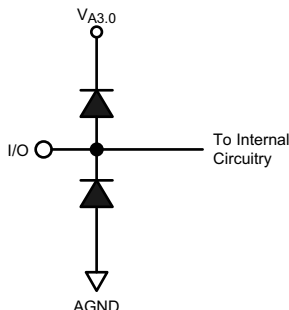

Figure 1.
- (1) The inputs are protected as shown below. Input voltage magnitudes above $V_{A3.0}$ or below GND will not damage this device, provided current is limited per Note 4 of the Absolute Maximum Ratings table. However, errors in the A/D conversion can occur if the input goes above 2.6V or below GND as described in the Operating Ratings section see Figure 1.
- (2) Typical figures are at $T_A = 25^\circ C$ and represent most likely parametric norms at the time of product characterization. The typical specifications are not ensured.
- (3) The input capacitance is the sum of the package/pin capacitance and the sample and hold circuit capacitance.
(1) The inputs are protected as shown below. Input voltage magnitudes above $V_{A3.0}$ or below GND will not damage this device, provided current is limited per Note 4 of the Absolute Maximum Ratings table. However, errors in the A/D conversion can occur if the input goes above 2.6V or below GND as described in the Operating Ratings section see Figure 1.
(2) This parameter is specified in units of dBFS – indicating the equivalent value that would be attained with a full-scale input signal.
- (2) This parameter is ensured only at $25^\circ C$. For power dissipation over temperature range, refer to Core Power vs. Temperature plot in Typical Performance Characteristics, Dynamic Performance
- (2) This parameter is a function of the CLK frequency - increasing directly as the frequency is lowered. At frequencies less than 130 MHz, use the following formulae to calculate the setup and hold times: